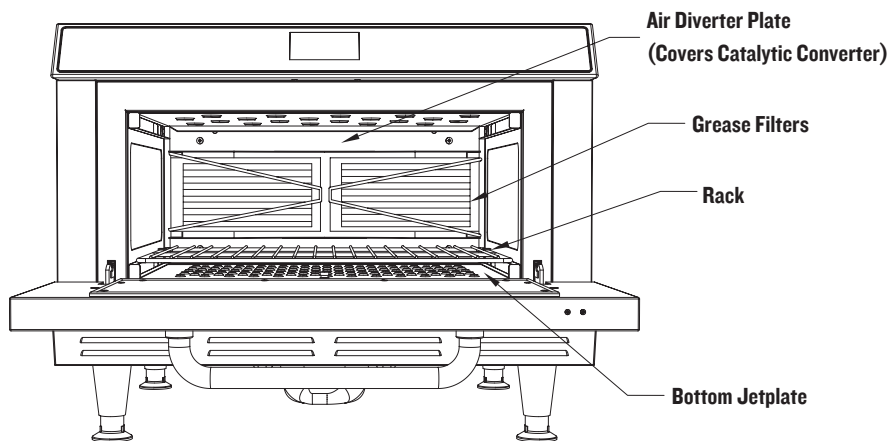

FIGURE 7: Cook Cavity
The procedures below will help in maintaining the High h Batch oven. Be sure to use only TurboChef Oven Cleaner. Using any other cleaning products can damage critical parts and may void warranty on those parts. Refer to Figure 7 to view the cook cavity components.
TurboChef recommends deep cleaning the oven once a month (or more frequently, depending on use) to ensure optimal performance. Be sure to use only TurboChef Oven Cleaner. Using any other cleaning products can damage critical parts and may void warranty on those parts. Reference Figure 7 to view cook cavity components.
- If necessary, remove filter by first unhooking the filter clip (HHB-8115), which is attached at the center of the Air Diverter Plate. See Figure 7.